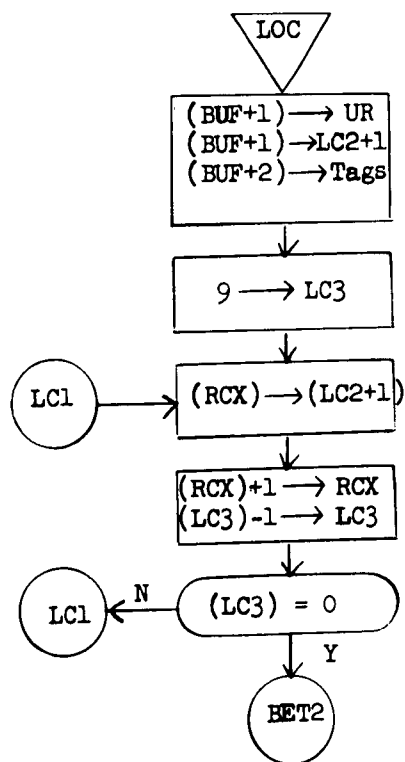

Figure 7.20 LOC
7.3.4 LOC Locate Subroutine (Figure 7.20)